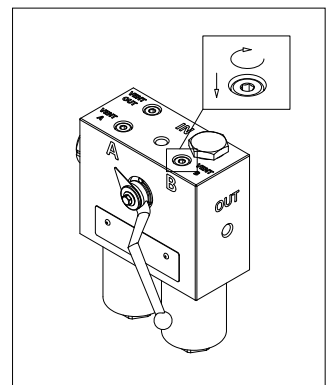

fig. 13
- (Fig. 13) Screw the breather plug in.